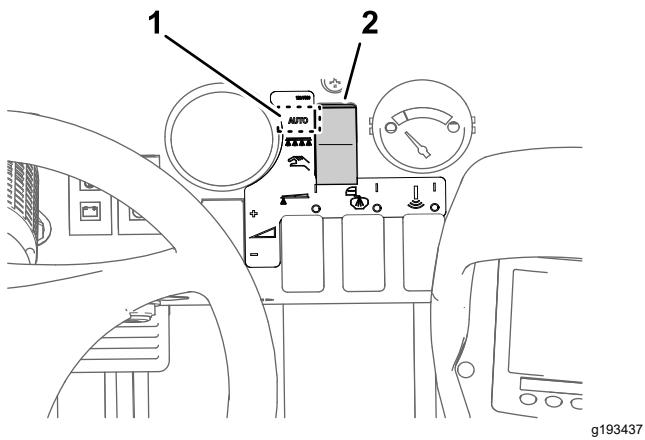

Figure 38
3. Set the sprayer mode button to the Application Rate Mode (Figure 38).